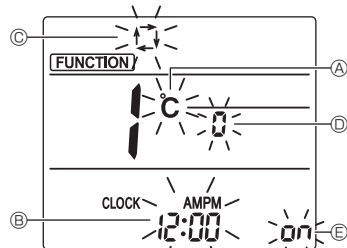

Fig. 4-8
The Screen display setting screen will be displayed. (Fig. 4-8)
4.9.2. Changing the temperature unit (Fig. 4-8 Ⓐ)
- Press the **TEMP** button ⑤.
- Each time the **TEMP** button ⑤ is pressed, the setting switches between °C and °F.
4.9.3. Changing the time display (Fig. 4-8 Ⓑ)
- Press the **TIME** button ⑥.
- Each time the **TIME** button ⑥ is pressed, the setting switches between 12:00^{AM/PM} and 24:00.
4.9.4. Changing the AUTO mode (Fig. 4-8 Ⓒ)
- Press the **MODE** button ⑦.
- Each time the **MODE** button ⑦ is pressed, the setting switches between and .
4.9.5. Changing the pair No. (Fig. 4-8 Ⓓ)
- Press the **UP** button ④.
- Each time the **UP** button ④ is pressed, the pair No. 0-3 changes.